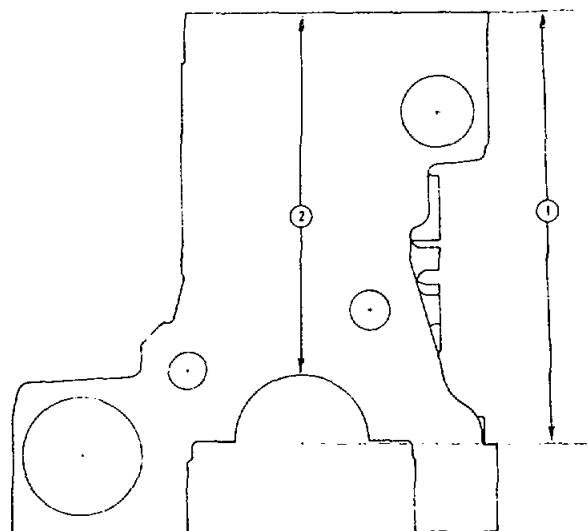

Figure 16C-12. Cylinder Block Height Checking Location
- B. Another method is to measure the distance from the installed main bearing bore alignment tool to the top surface of the block (2) Figure 16C-12.